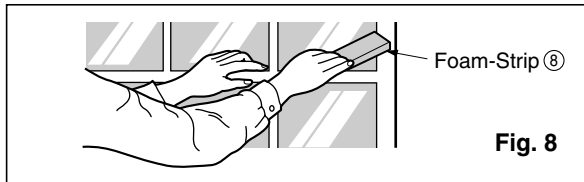

Fig. 8
11. Cut the foam-strip ⑧ to the proper length and insert between the upper window sash and the lower window sash. (See Fig. 8)